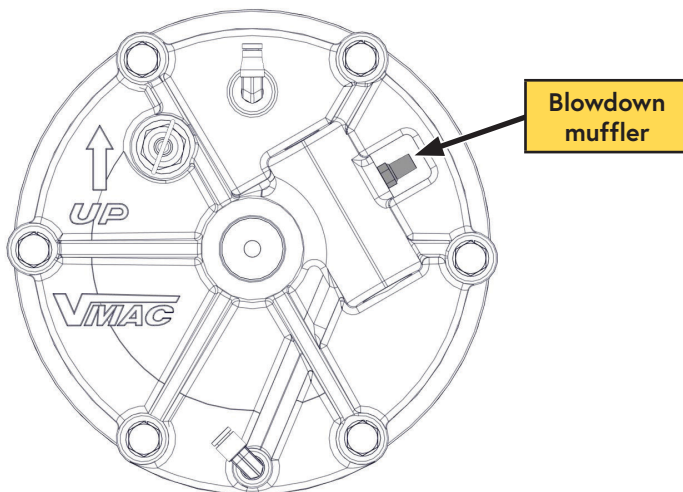

Figure 49 — Blowdown muffler
- ☐ Apply thread sealant and replace the blowdown muffler (Figure 49).